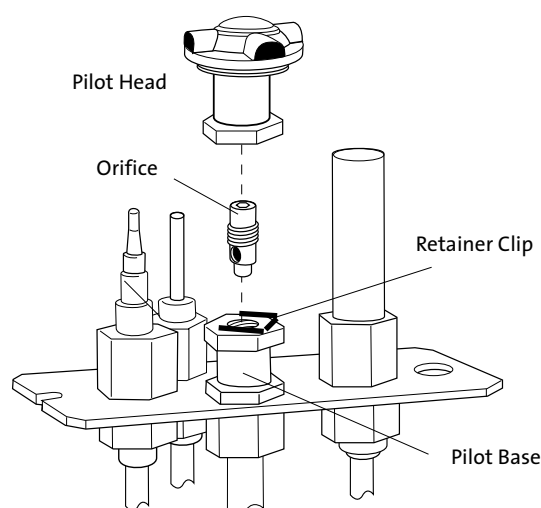

Figure 16. Pilot orifice removal and replacement.
11. **CHANGE THE PILOT ORIFICE:** From within the firebox, remove the Pilot Head by pulling it straight up from the pilot base. See fig. 16. Using the 4 mm hex key included with the kit, unscrew the pilot orifice (counterclockwise). Replace with the appropriate orifice: